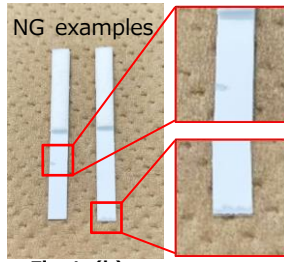

Fig. 1-(b)
1. Setting up the microplate. [Fig.1-(a)]